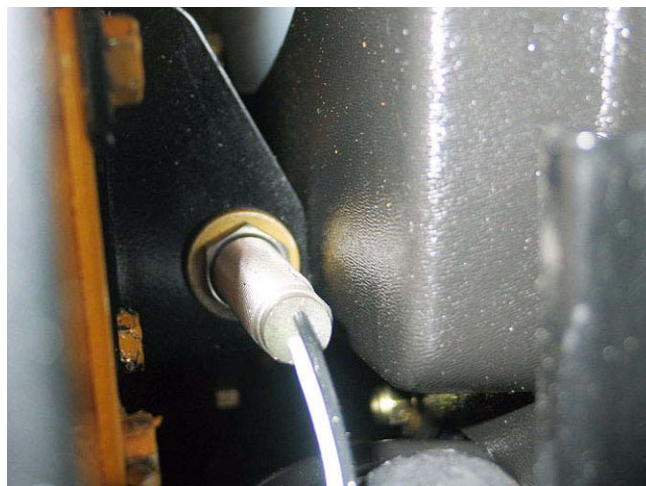

Figure 2.6
2.6. Slide the engine as far forward as possible. The left side of the engine goes slightly farther than the right side because of interference between the engine speed sensor and the fan shroud on the right side. See Figure 2.6.